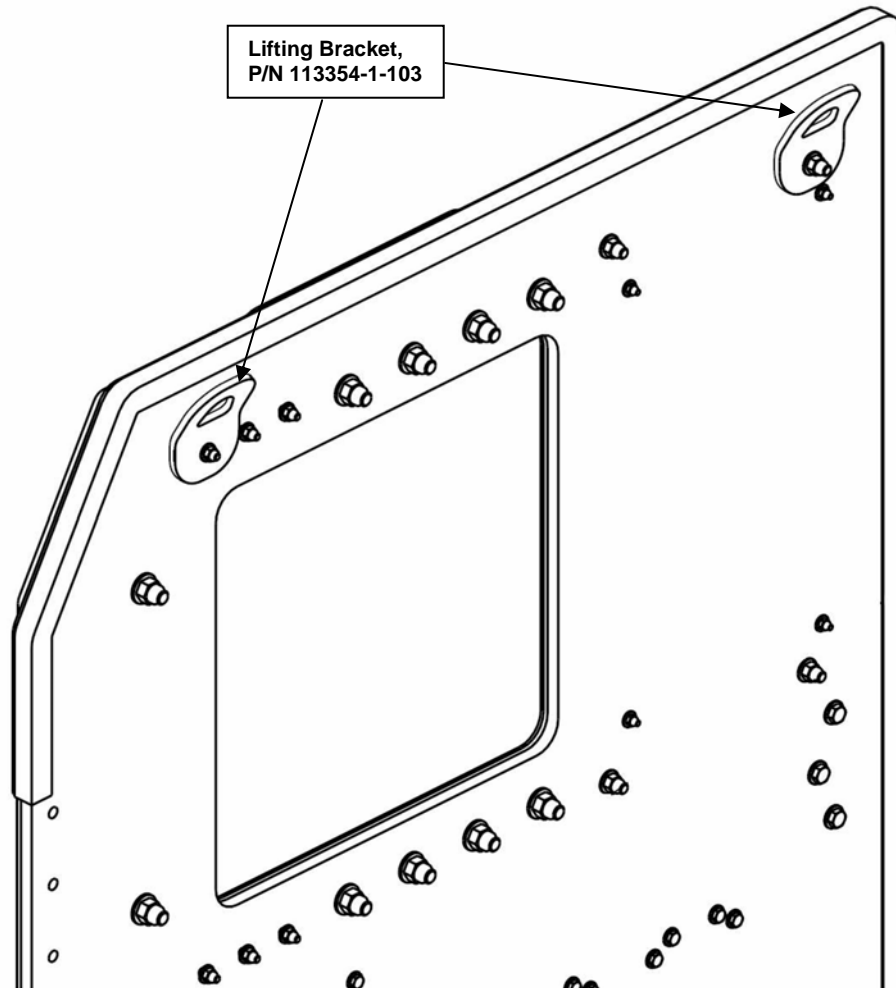

**Figure 26. Door Striker and Combat Latch locations.**
- q) Install the Door Striker Base and Striker Pin, as shown in Figure 26.
- v) Attach the Door Striker Support (P/N 113327-1), as shown in Figure 26, using two 0.312-18 x 1.00 Long Cap Head Bolts.